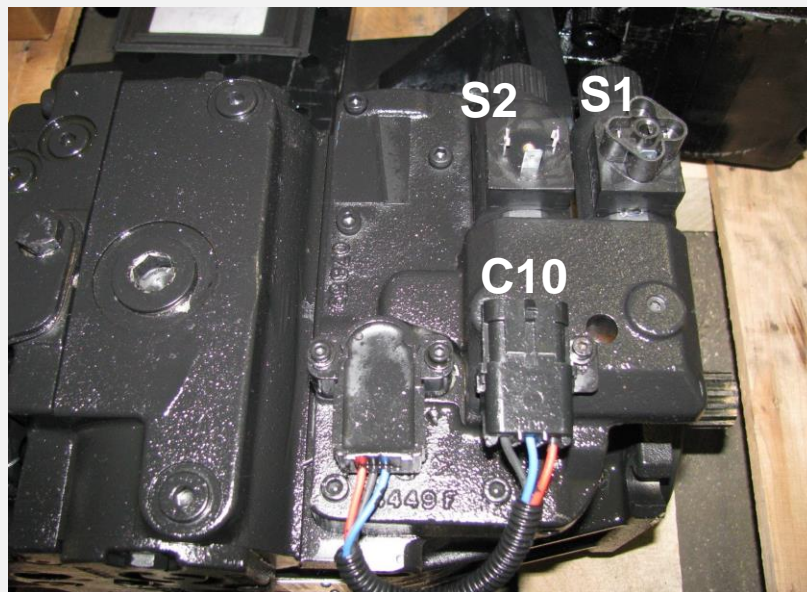

Figure 7.29: Primary Pump
27. Plug connector C10 into the pump feedback connection on the primary pump (Figure 7.29).